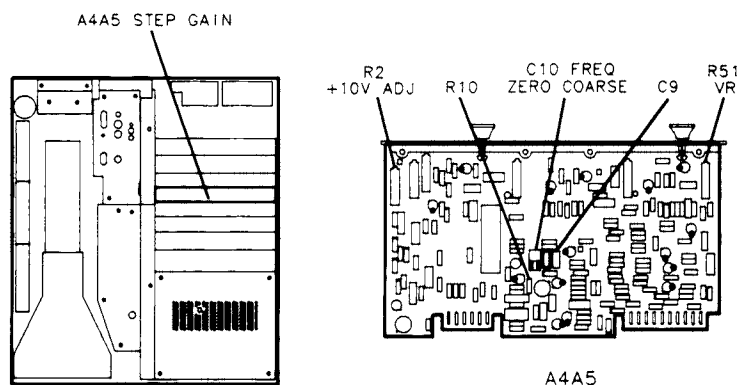

Figure 3-49.
36. Adjust A4A5R51 VR for MKR **(Δ)** level of +0.10 dB. See Figure 3-49 for location of adjustment.
40. Adjust A4A5C10 FREQ ZERO to peak signal trace on CRT. See Figure 3-49 for location of adjustment.
If A4A6A1C31 has insufficient adjustment range, increase the value of factory-select resistor A4A5R10. See Figure 3-49 for the location of A4A5R10. Refer to Table 3-3 for the acceptable range of values for A4A5R10 and to Table 3-4 for HP part numbers.